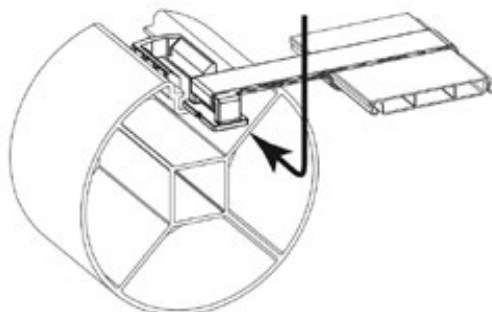

Figure 44 – Slat apron/ axle junction
Fasten the slat on the axle side to the axle as illustrated in *Figure 44* The U shaped parts can slide freely so that they can be positioned opposite the straps fastened to the cover slat.
The safety straps (8) are pre-installed on the first two slats of the cover apron. Use the mounting brackets(1) as a drilling template and pre-drill the wall at the locations where the cover safety fasteners will be mounted, that is, the wall opposite the axle, exactly opposite the safety straps. Position the mounting brackets such that the marks N are at the water level (*Figure 44*).